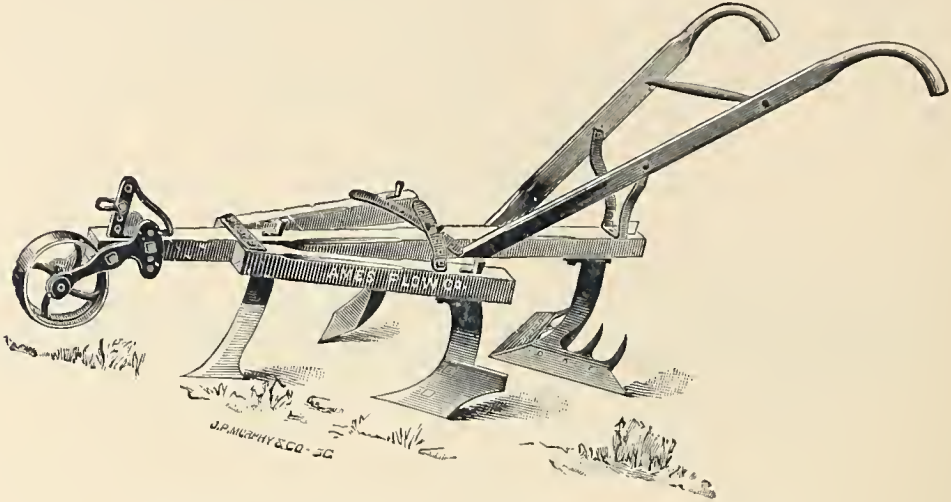

Fig. 362.—Knox Expanding Horse-Hoe.
*The Knox Expanding Horse-Hoe*, represented by *Fig. 362*, is the same im-